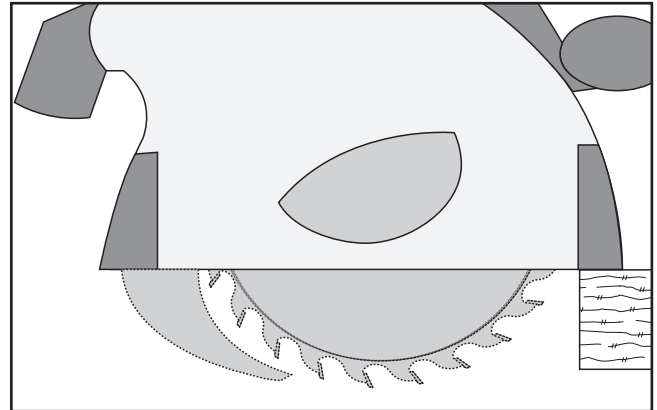

Figure 12. Example of proper blade orientation.
6. Slide new blade onto arbor, ensuring that teeth at bottom of blade face forward, as shown in **Figure 12**.